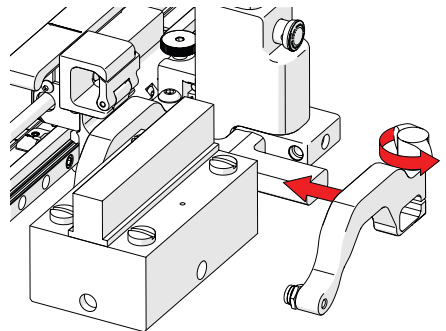

Fig. 29 - Adjust inner arm
4. Loosen the arm clamp screw (Fig. 29).
5. Place the wedge on the pivot button of the inner probe holder arm (Fig. 29).